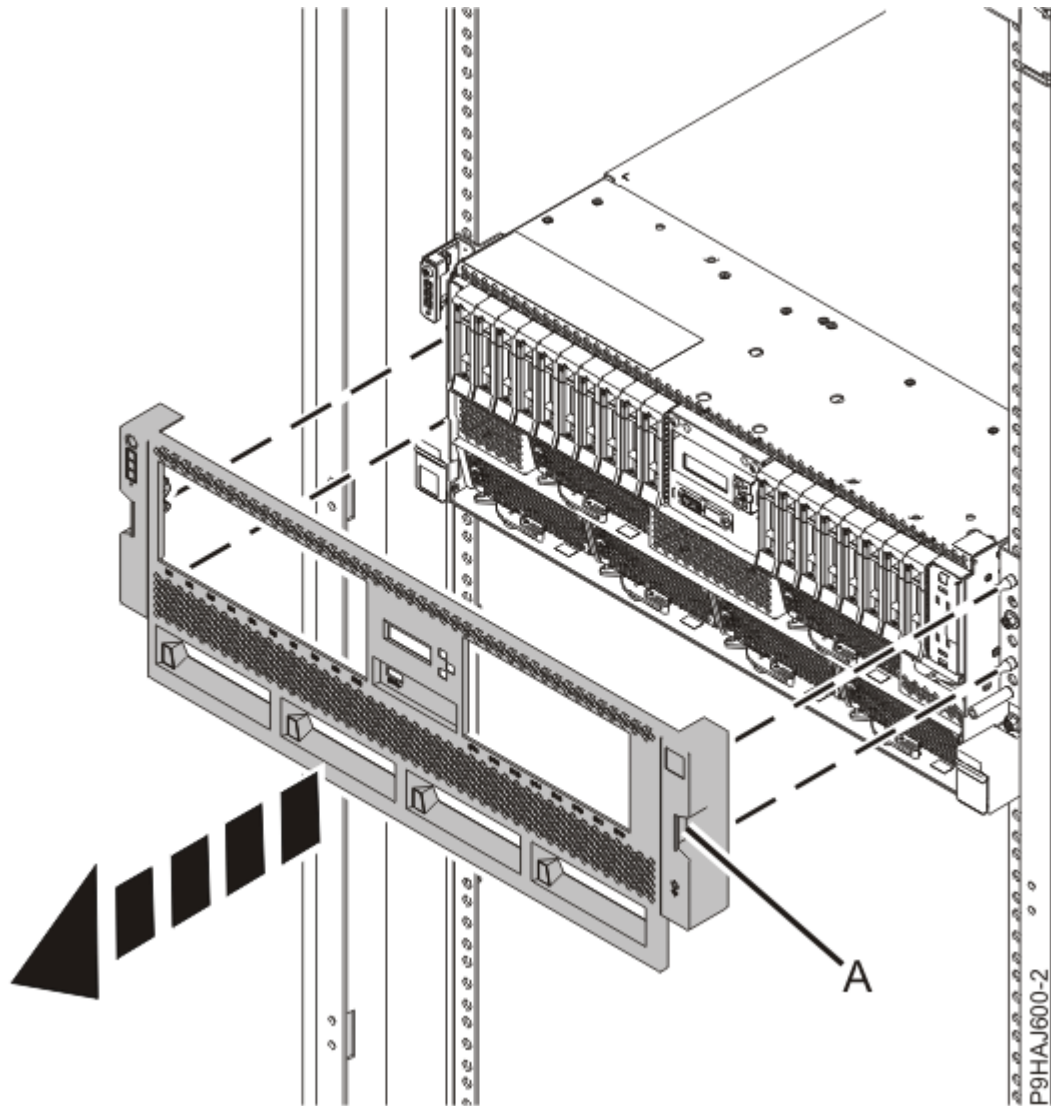

Figure 5. Removing the front cover
14. Hold the indentations **(A)** on the front cover and pull it away from the system. See Figure 5 on page 8.